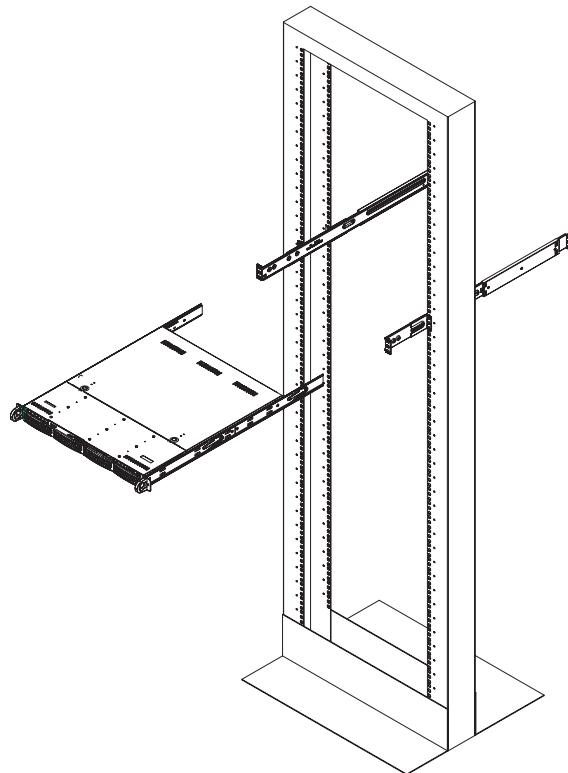

Figure 2-2. Installing the Server into a Telco Rack
2. Slide the chassis rails into the rack rails, keeping the pressure even on both sides (you may have to press the locking tabs when inserting). See Figure 2-2.